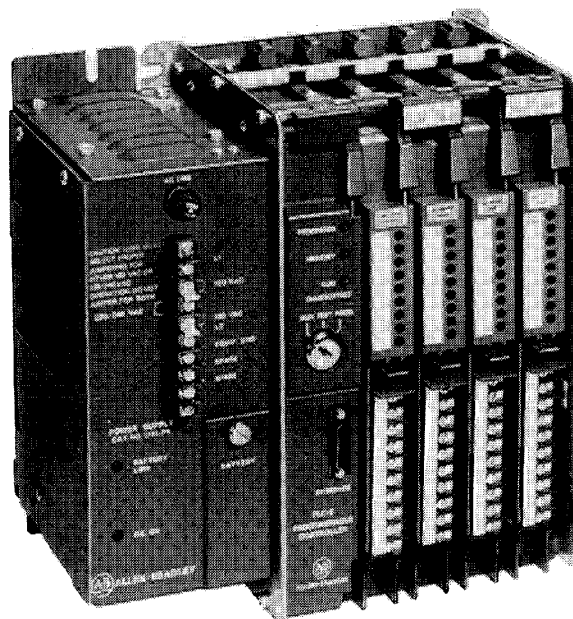

Figure 1.1 — Mini-PLC-2 Programmable Controller
**1.0 General** — The Bulletin 1772 Mini-PLC-2 programmable controller is a microprocessor-based controller for industrial applications. Adaptable in size and configuration, it can monitor and control up to 128 input and output (I/O) devices. (Refer to Figure 1.1)
The Mini-PLC-2 controller shown in Figure 1.1 uses a 32 I/O Chassis.